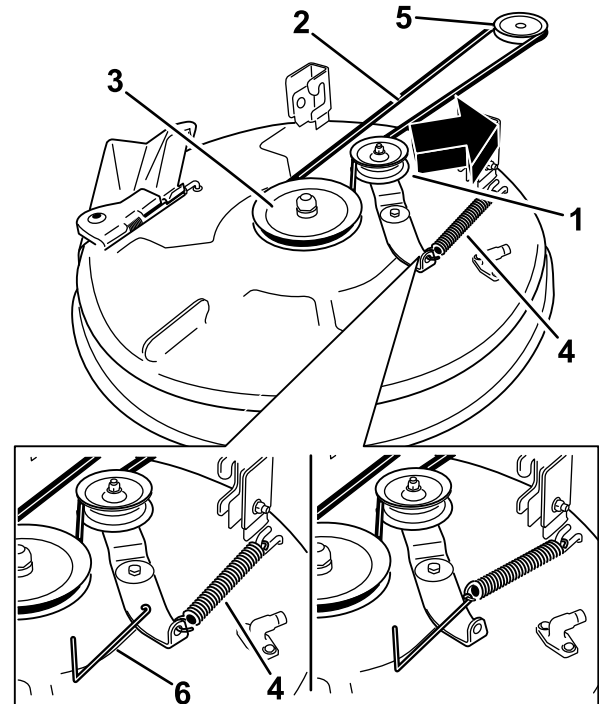
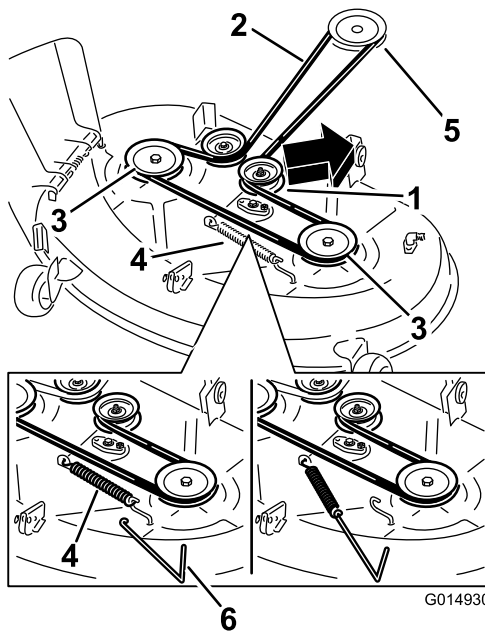

Figure 54
Figure 55
6. Using a spring-removal tool (Toro Part No. 92-5771), remove the idler spring from the deck hook to remove tension on the idler pulley, and roll the belt off the pulleys (Figure 54 and Figure 55).
7. Route the new belt around the engine pulley and mower pulleys (Figure 54 and Figure 55).
8. Using a spring-removal tool (Toro Part No. 92-5771), install the idler spring over the deck hook and place tension on the idler pulley and the mower belt (Figure 54 and Figure 55).